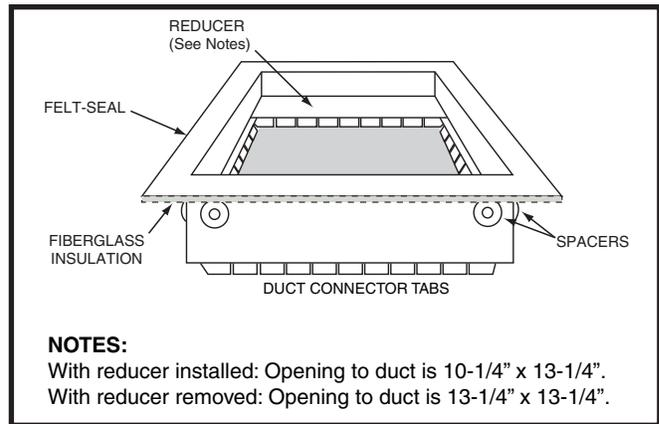

Figure 11. Duct Connector
The *RL series gas furnace is certified for use on wood flooring or supports, but must be installed on a special duct connector (Figure 11). This factory supplied accessory must be installed in the floor cavity and attached to the supply air duct before the downflow furnace is installed.
- b. Mark the cut-out area on the supply air duct by tracing around the connector tabs (Figure 11, page 16) of the duct connector.